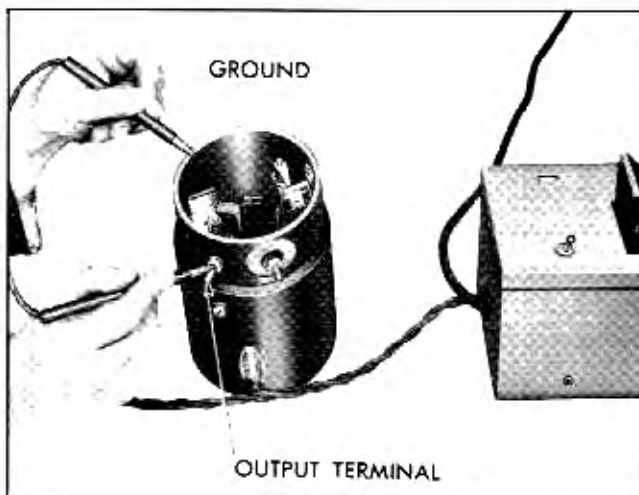

Fig. 12-25 Testing Positive Terminal for Ground
f. Using a 110-volt test lamp, place one lead on generator positive (or output) terminal on generator frame, and place other lead on ground (touch to generator frame) (Fig. 12-25). (Be sure loose end of terminal lead is not touching ground.) If lamp lights,